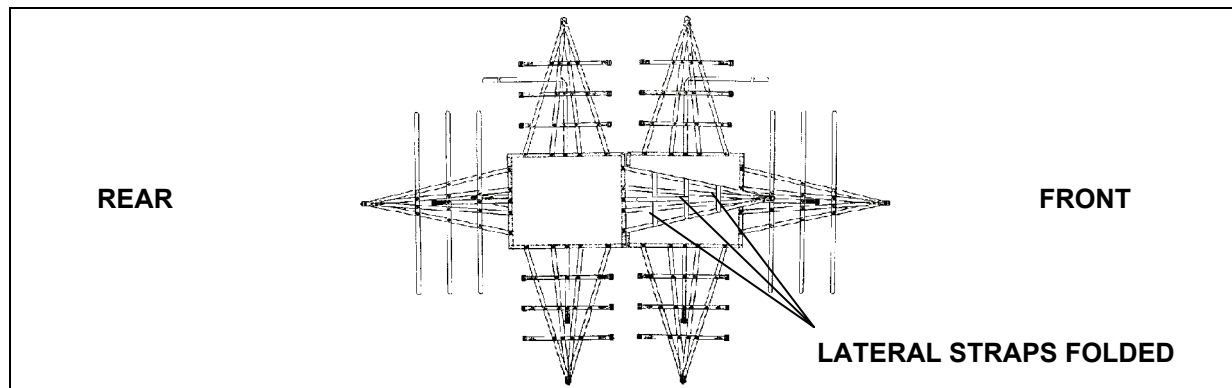

Figure 8-10. Second A-22 Sling Assembly Positioned
- Fold and place all lateral straps on top of the front support web (Figure 8-10).